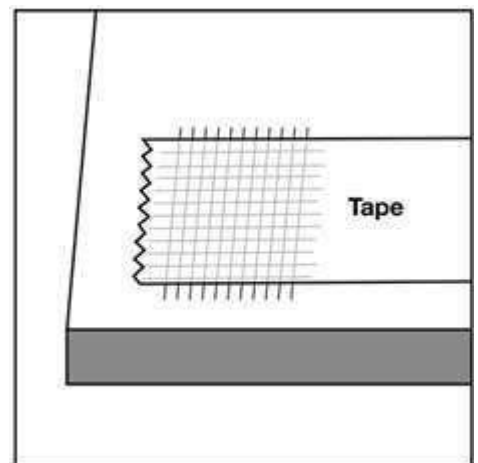

Figure 4e
3. Pressing firmly, apply a  $\frac{1}{2}$ "-wide strip of strong tape (i.e., Scotch™ brand) across the scored area (Figure 4e).